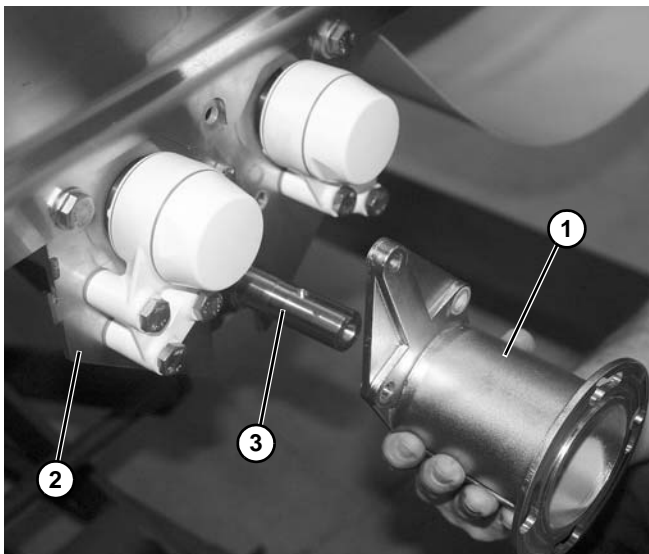

Figure 181
5. Remove motor mount (Figure 181, item 1) from side plate (Figure 181, item 2).
6. Remove drive spindle (Figure 181, item 3).
7. Remove bearing from motor mount (Figure 181, item 1). (See “Bearing Replacement” on page 50”.)